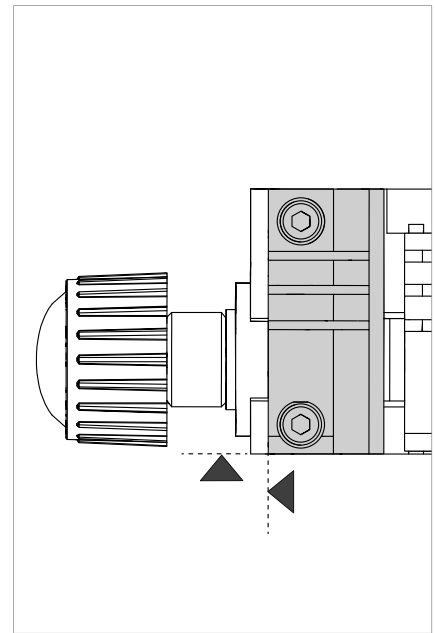

Fig. 63
- 2) Fit the new jaw up against the left-hand side and align also from the front (Fig. 63).